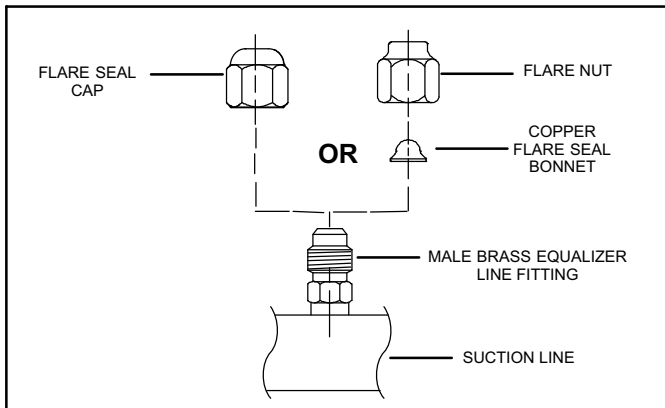

Figure 27. Copper Flare Seal Bonnet Removal
- Remove and discard either the flare seal cap or flare nut with copper flare seal bonnet from the equalizer line port on the suction line as illustrated in figure 27.